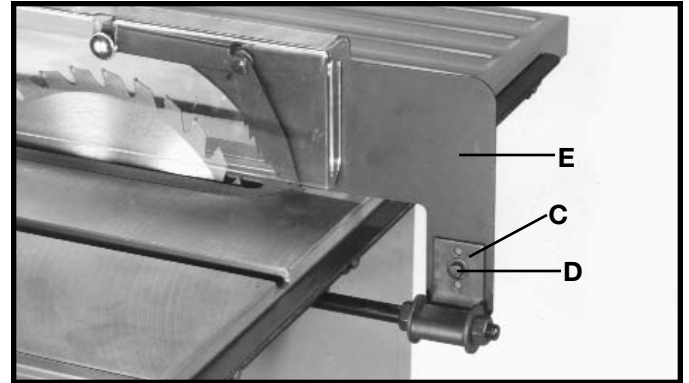
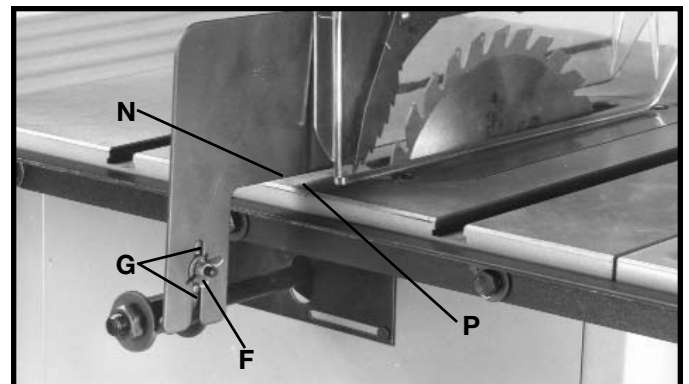

Fig. 27
Fig. 28
6. Align the hole in the blade guard and splitter assembly (E) Fig. 27, with the hole in the splitter bracket (C). **NOTE:** Make certain the two protrusions, "pins" (G) Fig. 28, are engaged with the channel of the splitter assembly.
7. Place a 1/4" external tooth lockwasher and a 5/16" lockwasher onto a M6x1x20mm hex head screw. Insert the hex head screw (D) Fig. 27, through the hole in the support bracket, and through the slot in the blade guard/splitter assembly.
8. Place a 1/4" external tooth lockwasher and a 5/16" lockwasher onto a M6x1x20mm hex head screw (D) Fig. 27. Thread a M6x1 wing nut (F) Fig. 28, onto the end of the hex head screw.
9. **NOTE:** Before tightening wing nut (F) Fig. 28, make certain there is at least a 1/8" gap between the bottom edge of splitter (N) and top surface of table (P).